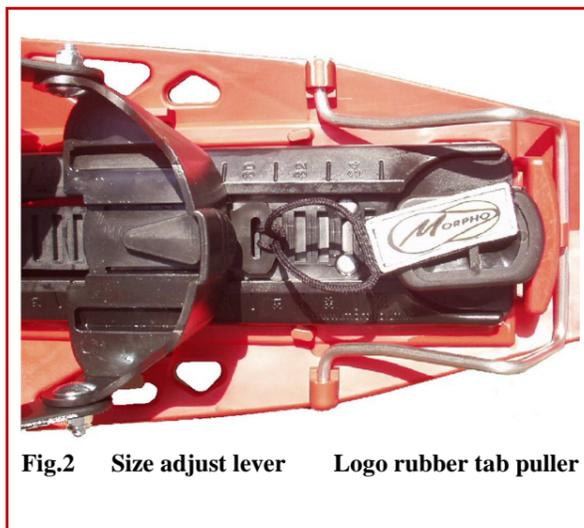
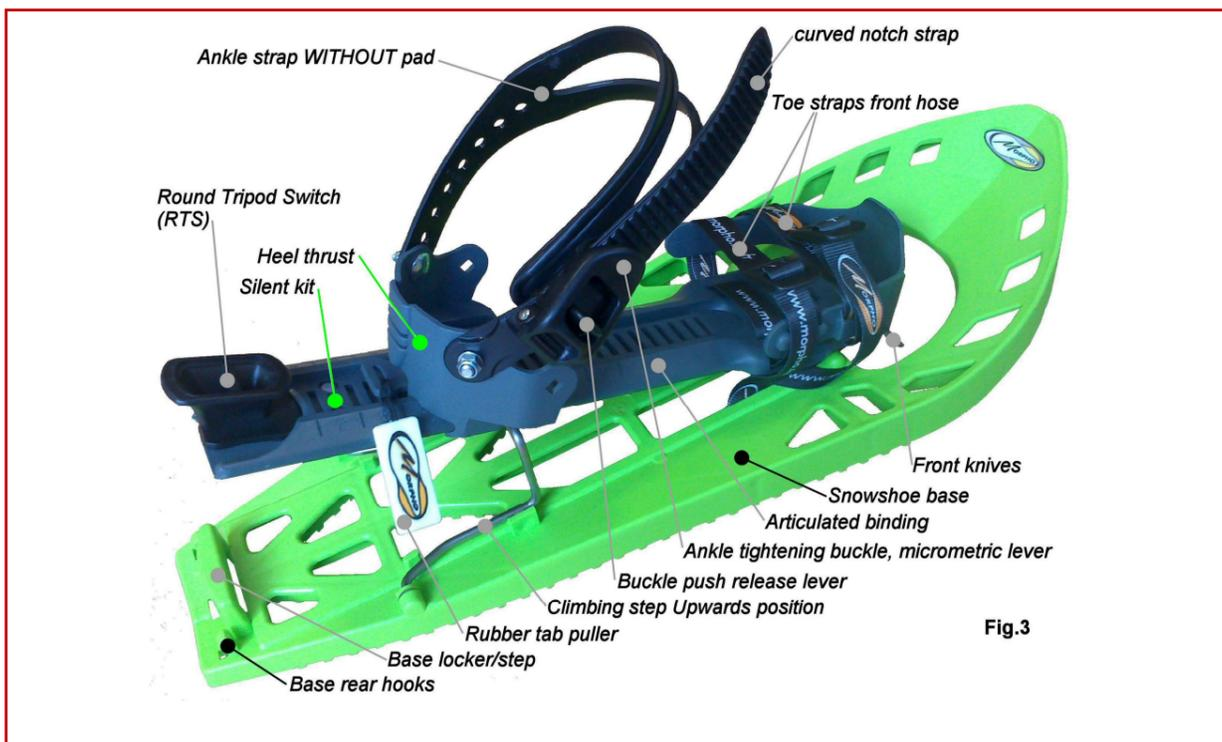

Fig.2 Size adjust lever Logo rubber tab puller
Fig.3
1. Untighten **ankle strap** (by loosening completely the **notch strap** from the **buckle** of the strap) as well as the 2 **toe straps** so as to insert your boots and to adjust the **heel thrust** of **articulated binding** plate to your boot size. See Fig.3
3. Adjust the heel thrust to the proper size of your boot using the Morpholock system. See Fig.2:
6. **Snowshoeing**: keep **articulated binding** plate **free** from snowshoe base when going flat, traverse, uphill or downhill: the **RTS** unlocked from base locker/step in all cases. The articulated binding must **lay flat** on the snowshoe base or **stepping** on the extra high **metallic climbing step** when climbing steep slopes: for this purpose rotate the **climbing step** forward in its upwards position (fig.3) from its idle position (fig.2) with your gloves.
7. **After use, untighten ankle strap** first: push on the **release lever** of the ratchet buckle and pull out the ankle strap from the notch strap while keeping pressure on the **buckle push release lever**. Then untighten the 2 toe straps: pull up the ends of the quick buckles and loosen the webbings. See fig 3. Remove your boot. **To store** the snowshoe push the articulated binding on the base and lock it to the base by **rotating the RTS** so as to insert it into the **base locker/step**. See fig.2
.When rotating backward metallic climbing step to its idle position make sure to fully push it down until it is blocked by the 2 snowshoe base **rear hooks**. (fig.2)